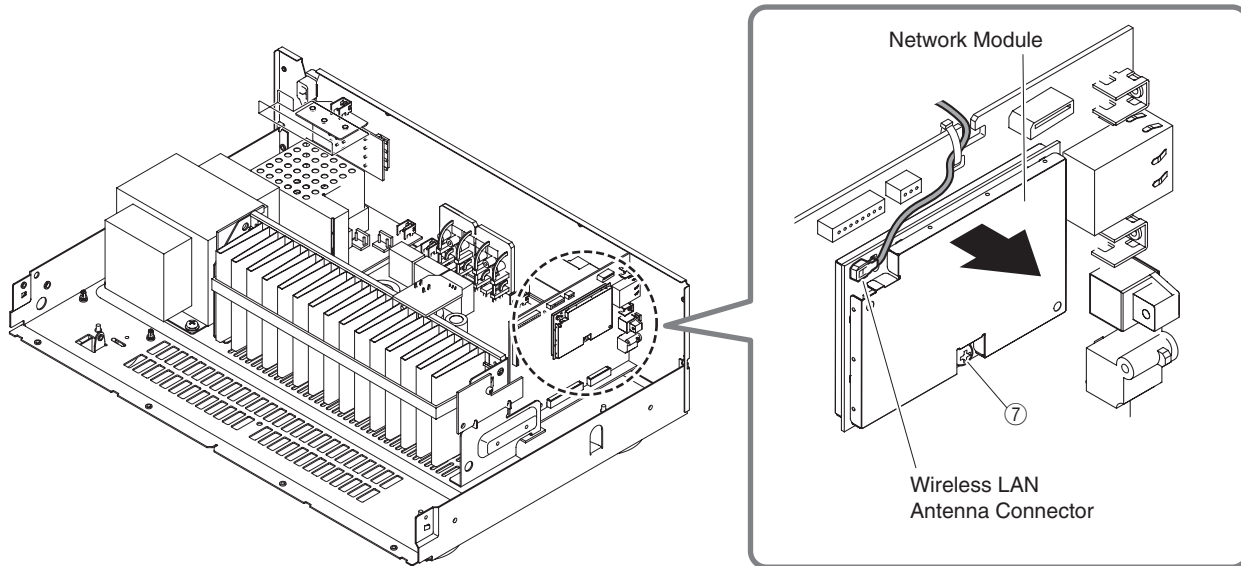

Fig. 2
- Remove the Wireless LAN Antenna Connector by using MHF Connector Remover. (Fig. 2)
- Remove a screw (⑦). (Fig. 2)
- Remove the Network Module forward. (Fig. 2)